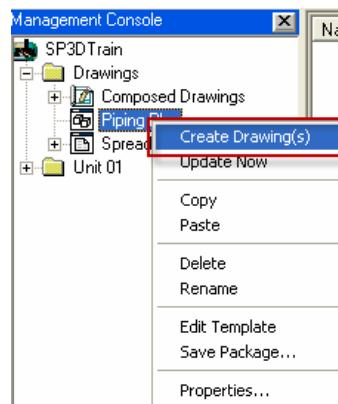

Figure 40: Management Console
2. In the **Management Console**, expand the tree to **Drawings**, right-click the **Piping Plan** component, and click **Create Drawing(s)** to list the drawings in the **Detail View** as shown in Figure 40.